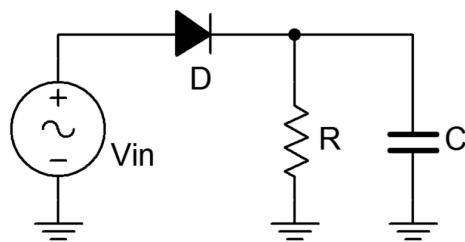

Figure 2
6. The circuit of Figure 2 adds a filtering capacitor across the load. This should help to “fill the gaps” created by the missing portions of the waveform. Build the circuit of Figure 2 using $V_{in} = 10$ volts peak at 1 kHz, $R = 10\text{ k}\Omega$ and $C = 22\text{ nF}$. Making sure that the scope inputs are DC coupled, place scope probes across the input and load, and capture the resulting image. Record the peak value in Table 2.